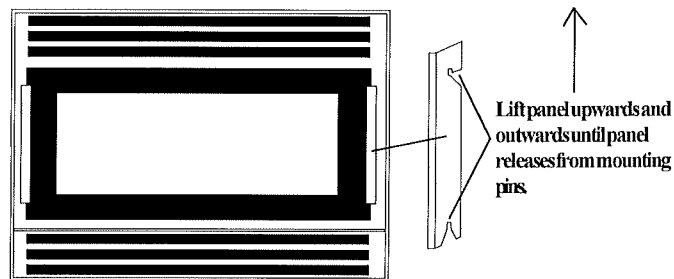

FIGURE 4. OUTER GLASS DOOR
To remove the outer glass panel lift upwards and outwards. This will release the panel from the mounting pins. See **Figure 4**.
- Check 2 amp fuse on top of junction box located in the burner control compartment. (see figure 4) If fuse is ok, and fans still do not operate, then we recommend you call a qualified contractor to locate the electrical fault.